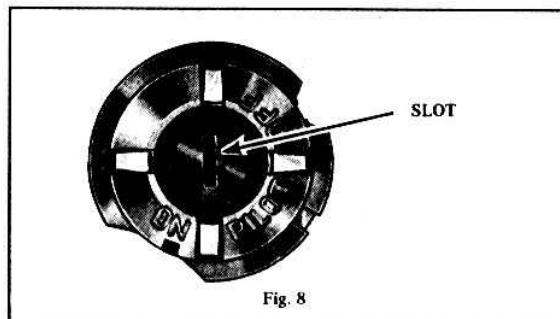

Fig. 8
1. Remove regulator adjustment cap by inserting screwdriver in slot and rotating counter-clockwise (See Fig. 8).